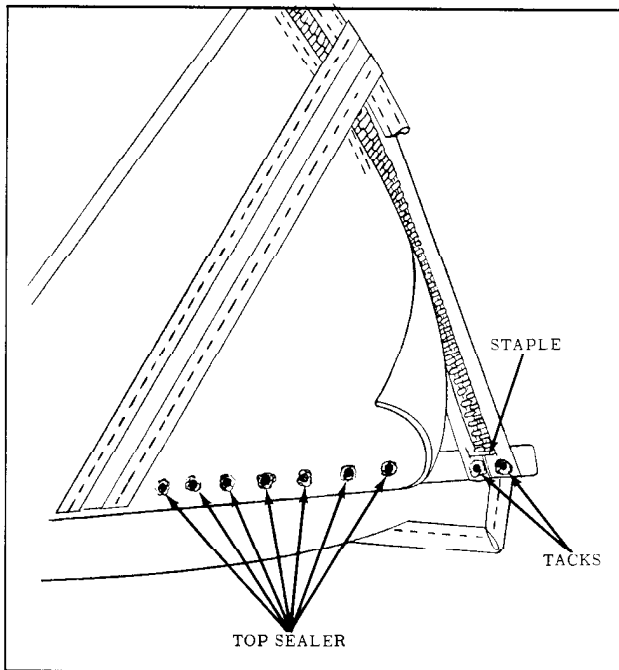

Fig. 17-48 Sealing at Rear Quarter Trim Stick
12. Staple both sections of zipper tape together. Staples will aid in preventing zipper scoops from disengaging and also serve as a stop for the slide fastener. (Fig. 17-48)
14. Tack zipper tape to rear quarter trim stick. (Fig. 17-48) Zipper tape should not be pulled taut as zipper teeth may show through top material after top has been properly installed.
18. Apply convertible top sealer around each tack head used to secure back curtain material and webbing to rear and rear quarter trim sticks. (Fig. 17-48)